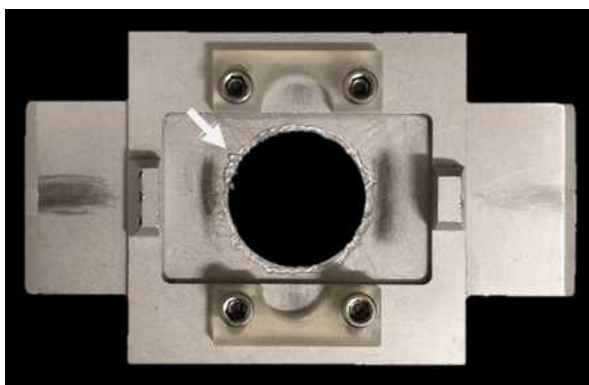

Figure 3. Platform chamber with grease (white arrow).
- 4 Add grease around the circle (facing up) of the 'platform chamber' (Figure 3).